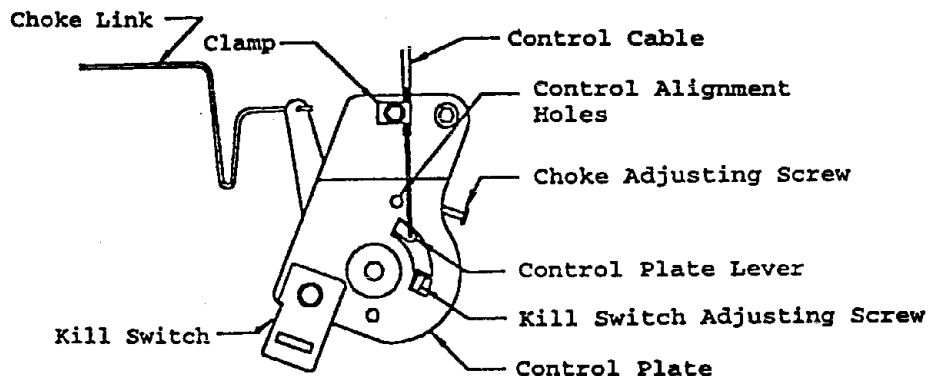

FIG 2
- b) Loosen clamp on engine control plate (See Figures 2 & 3). Attach inner wire of the throttle cable to the control plate lever and position cable under cable clamp, **do not** tighten clamp.